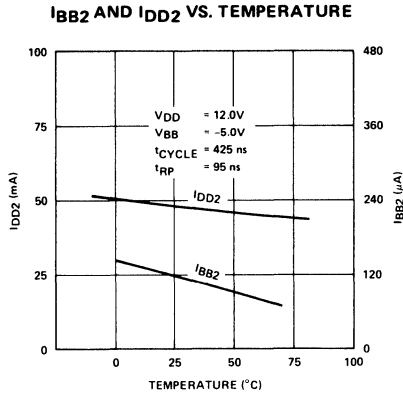

Figure 1.
1. For 128 cycle (\overline{RAS} before \overline{CAS}) use I_{DD2} from Figures 1 and 2.
2. For 64 cycle (\overline{CAS} before \overline{RAS}) multiply I_{DD2} determined in (1) by 0.96.
3. For 128 cycle (\overline{RAS} only) multiply I_{DD2} determined in (1) by 0.78.